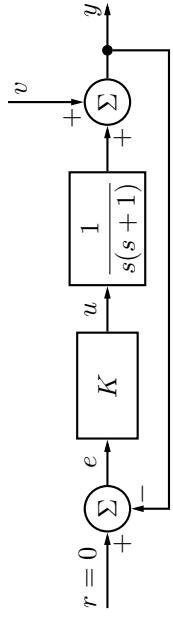

Figure 6.1a
6.1 Consider the control system in Figure 6.1a where $v(t)$ is a sinusoidal disturbance, $v(t) = \sin(t)$. Compute the absolute value of the sensitivity function at $\omega = 1$ rad/s as a function of K . How must K be selected if the amplitude of $y(t)$ shall be less than the amplitude of $v(t)$ at this frequency?